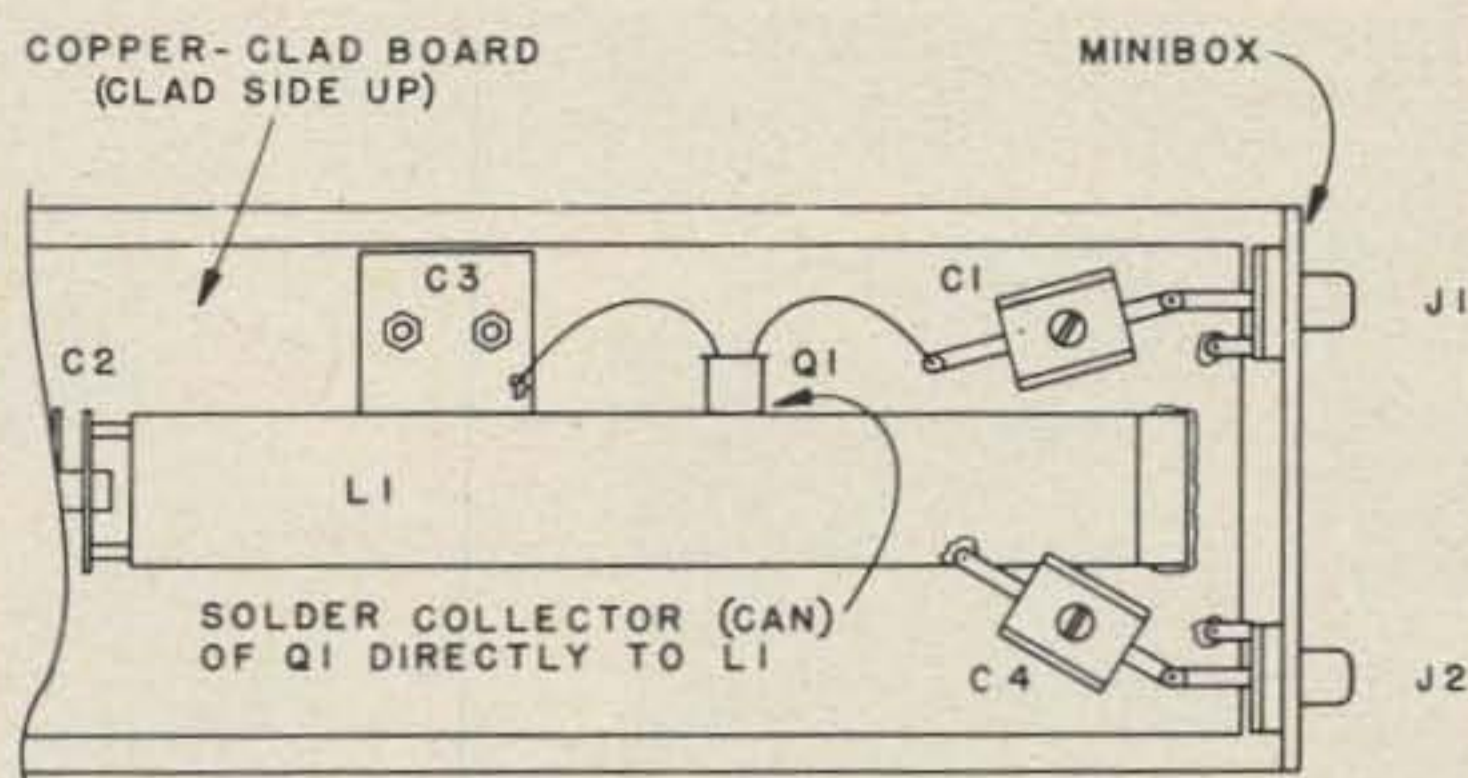

Fig. 5(c). Minibox amplifier detail. Q1 is close to the middle of L1.
- D. J1 and J2 need large ground straps for the outer connections. The inner cable connections must go directly to C1 and C4. No leads at all! See Fig. 5(c).